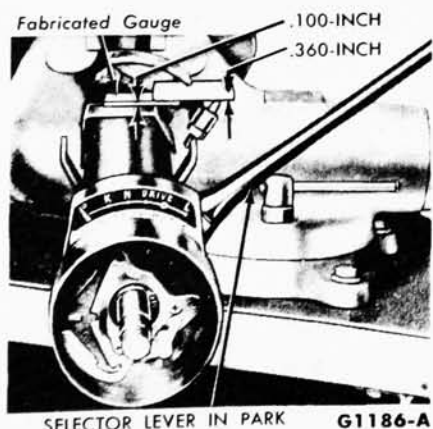

FIG. 15—Adjusting Cam Latch
5. If adjusting the cam latch screw does not correct the trouble, remove the column from the car and adjust the cam latch as shown in (Fig. 15).